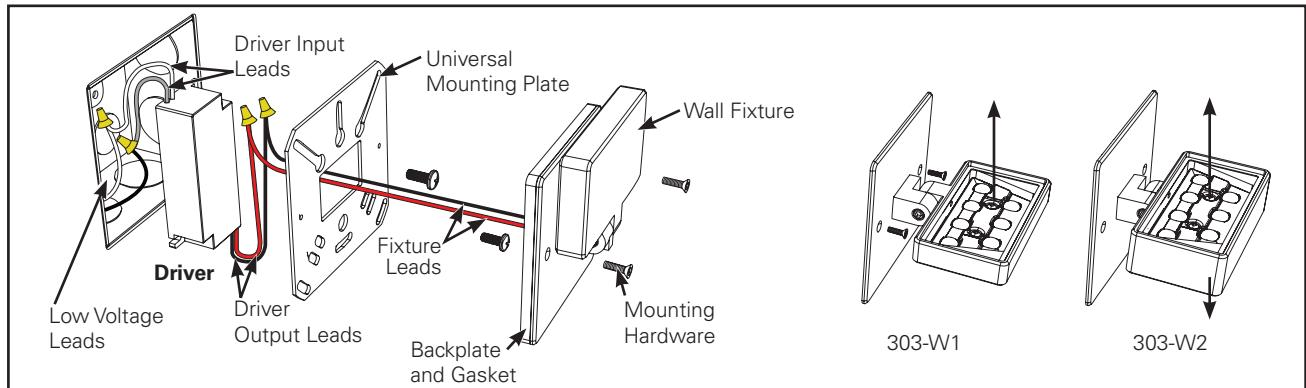

Figure 1.
1. Unpack EON Wall Fixture and ensure all included parts are present (303-W1 or 303-W2 fixture, Universal Mounting Plate, 8-32 Flat Head Screws (2x), and Class 2 Driver). Wire connectors, 5/64" and 9/64" allen keys, and junction box mounting hardware are required but not included. (Figure 1.)